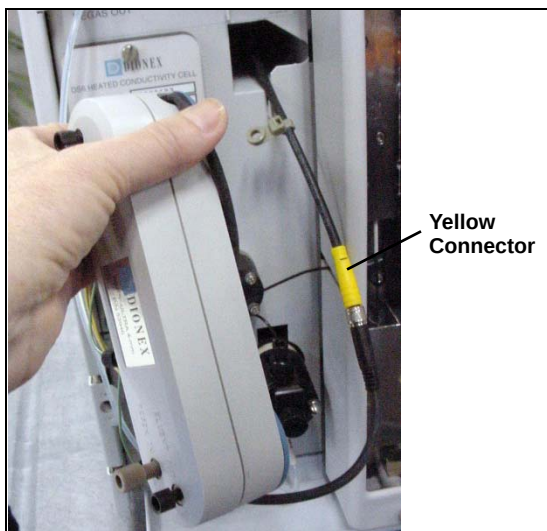

Figure 5-19. Removing the Suppressor
6. Continue pulling the suppressor out until the yellow connector on the cable inside the ICS-2000 is outside the panel (see Figure 5-19).